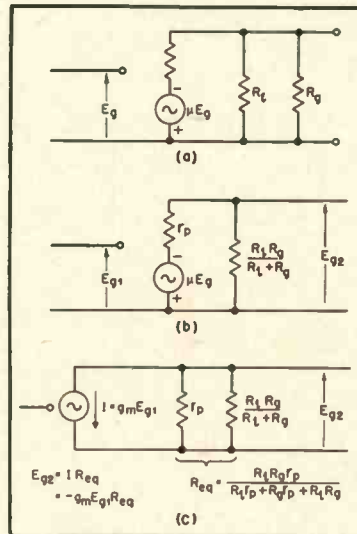

Figure 2
capacitor is chosen so that its reactance is small even at low frequencies, and that the load resistor  $R_L$  is small compared with the reactance of the capacitances in the output. Finally, the cathode bypass capacitor is selected so that its reactance will be very small at the lowest desired frequency. These original design requirements indicate possible simplifications of the circuit to enable the development of mathematical expressions for operation in the middle frequency region. This equivalent circuit for the mid-frequency band is shown in Fig. 2. The equations may be obtained by applying Kirchoff's law and Ohm's law to the loop. However, we have now reduced the circuit to the generator impedance in series with a pair of resistors in parallel. This permits an even simpler solution if we transpose the source to a current source. This is done at (C) in Fig. 2. The result is now obtained in one step.